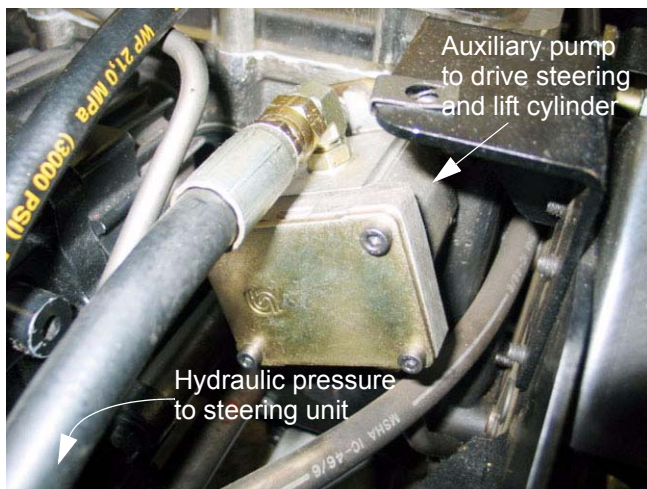

Figure 6.2
- 6.2. Domestic Series 7000 tractors produced before the 2004 season came with a single auxiliary pump. See Figure 6.2.